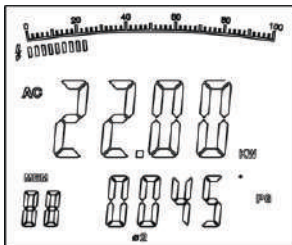

Figure 9
2. After recording the current power measurement value of the first phase, then press **SEL** to choose ② . The double display shows the value of active power kW and PG of the second phase **2**. as in figure 9.